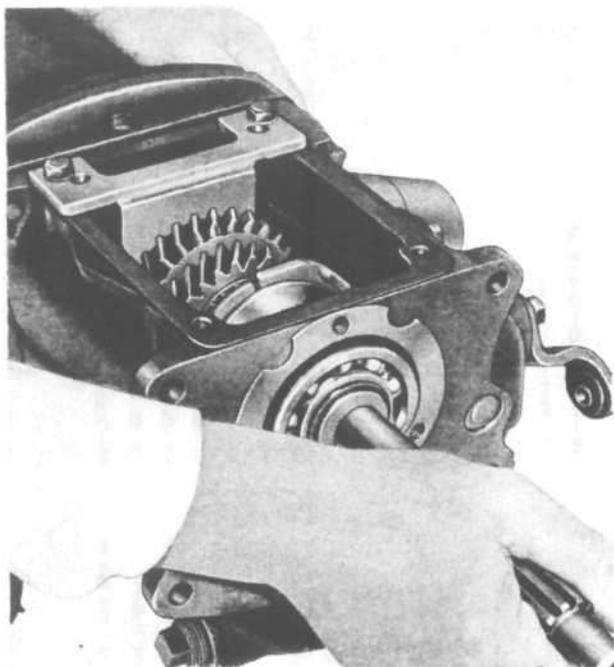

FIG. 196—MAINSHAFT RETAINING PLATE
e. Install transmission mainshaft retaining plate, tool W-194, Fig. 196, to prevent the mainshaft from pulling out of the transmission case. Should this tool be unavailable, loop a piece of wire around the mainshaft directly back of the low-speed sliding gear (40). Install the transmission cover right- and left-front attaching screws in the transmission case. Twist the wire and attach one end to each of the two screws. Draw the wire tightly.